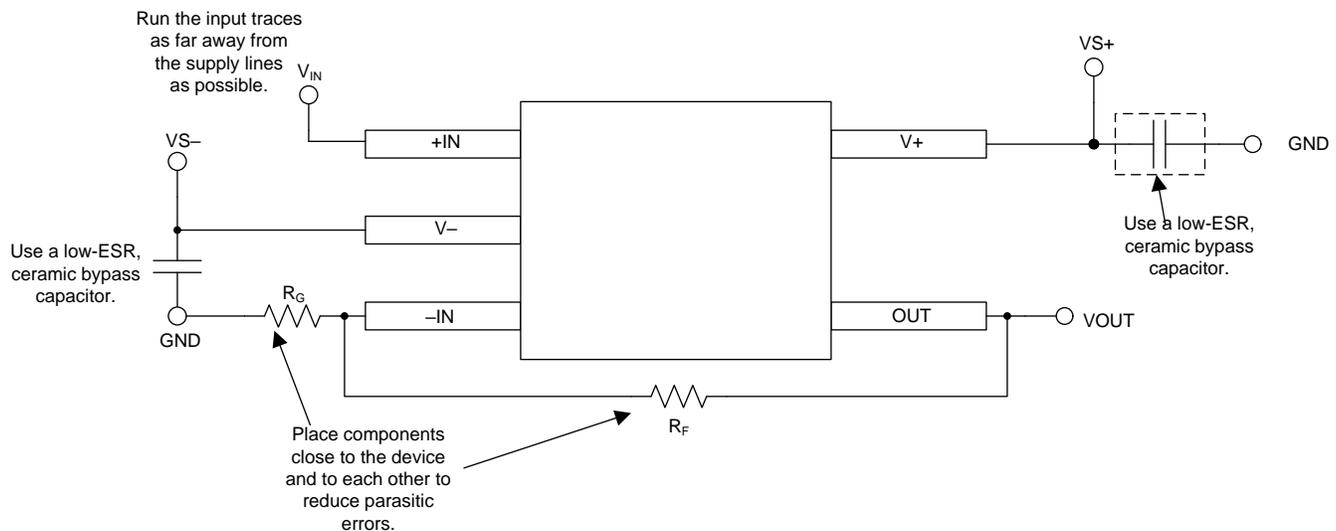

图 25. Operational Amplifier Board Layout for Noninverting Configuration
- Place the external components as close to the device as possible. Keep R_F and R_G close to the inverting input in order to minimize parasitic capacitance, as shown in 图 25.